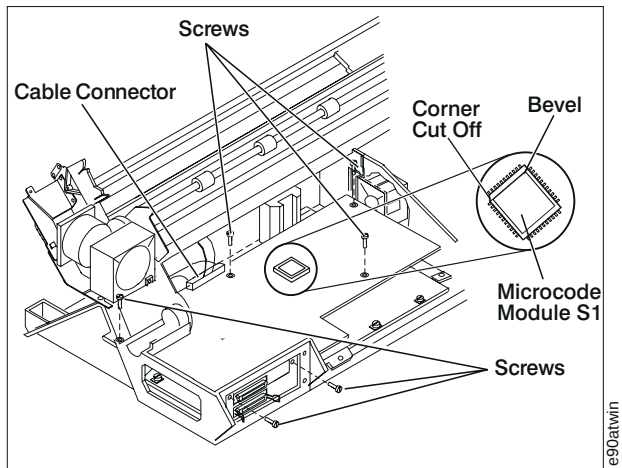

Figure 129. Twinax Attachment (Long) Card
7. When re-installing, verify that the microcode module S1 is properly oriented and plugged into the socket. Use Figure 129 on page 398 as a guide.